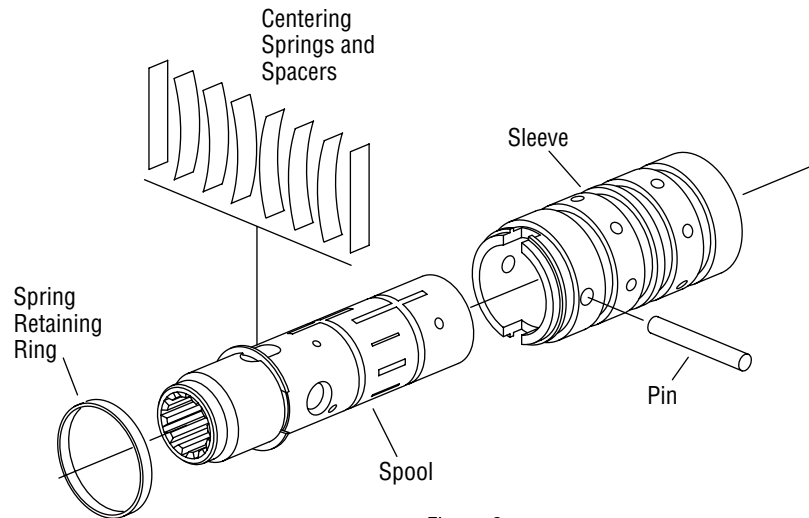

Figure 3
7 Remove the pin that holds the spool and sleeve together (see Figure 3).
- 15** Install the pin (see Figure 3).